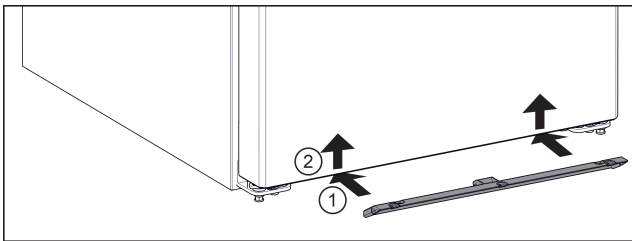

Fig. 4
- ▶ Slide the mosquito screen under the appliance. Fig. 4 (1)
- ▶ Push the mosquito screen upwards with both hands. Fig. 4 (2)